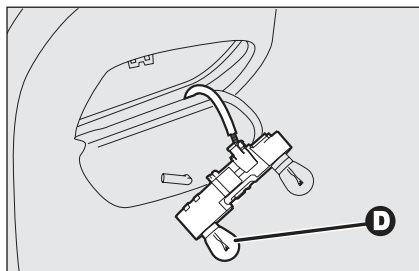

fig. 35
- ☐ remove and replace the burnt-out bulb by pressing it slightly and turning it counterclockwise **fig. 35**: